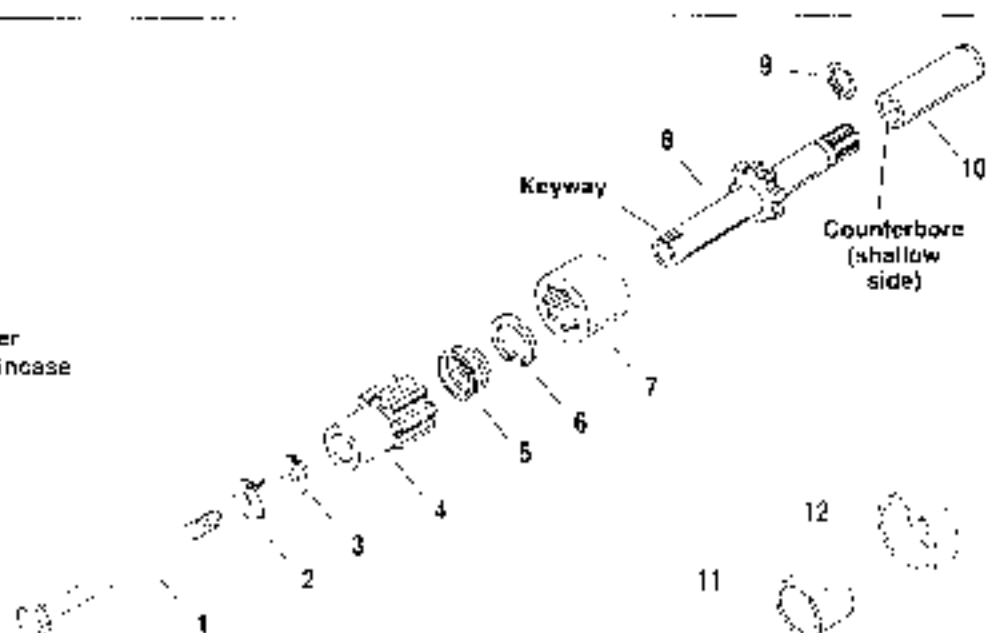

Figure 5-28. Starter Jackshaft
See Figure 5-28. If you are only going to service the items from the bolt through the spring (1-5), it is not necessary to remove clutch.
6. See Figure 5-28. Remove pinion gear (4) from jackshaft.
7. Remove coupling (7) and spring (5). Spring and retaining ring (6) are inside coupling. Replace retaining ring if necessary.
1. See Figure 5-28. If removed, insert retaining ring (9) in coupling (10). Install coupling on starter output shaft with counter bore facing jackshaft. Shallow side of coupling faces jackshaft splines. Continue with 5-4 STARTER installation.
2. Place spring (5) inside coupling (7).
3. Install pinion gear (4) on shaft.
4. Place lockplate (2) and thrust washer (3) on bolt (1). Insert bolt into jackshaft (18).
5. Install retaining ring (16) if removed, on shaft. Slide jackshaft assembly into position in inner primary.